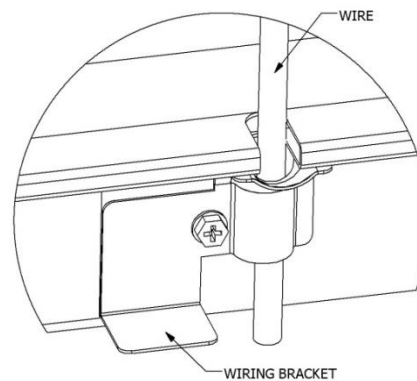

FIG. 3 - FAN WITH LIGHT
2. For a damper used with a fan equipped with a grille light, route the wire from the grille through the notch on the damper frame. Use the supplied bracket to secure the wire to the damper frame. Attach the bracket to the frame as seen in Figure 3 using one of the supplied #8-18 screws.